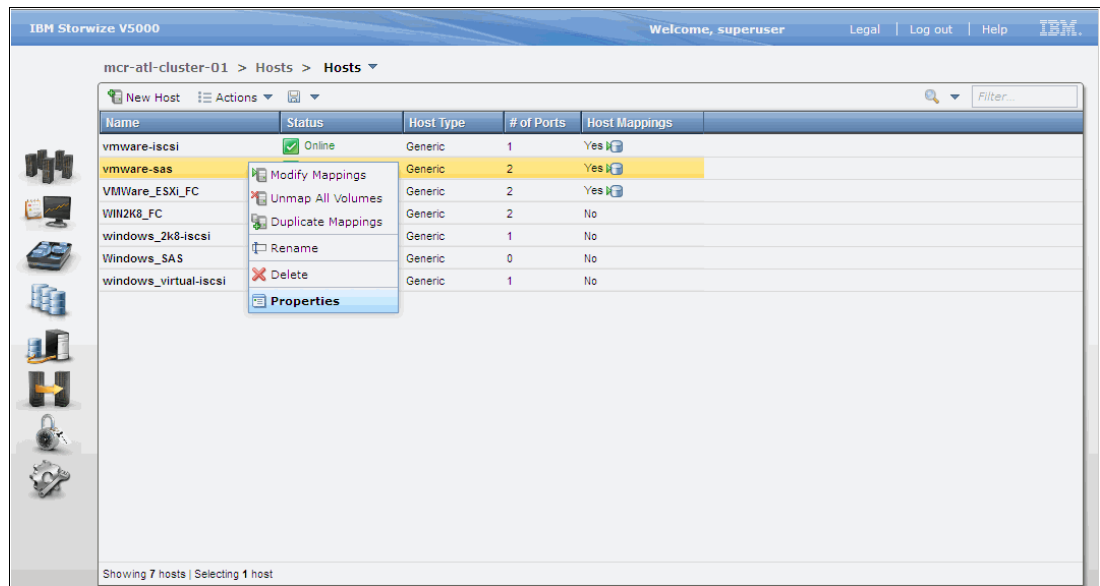

Figure 5-95 Example ESX SAS host
1. Right-click your VMware ESX SAS host in the Hosts view and select **Properties**, as shown in Figure 5-95.